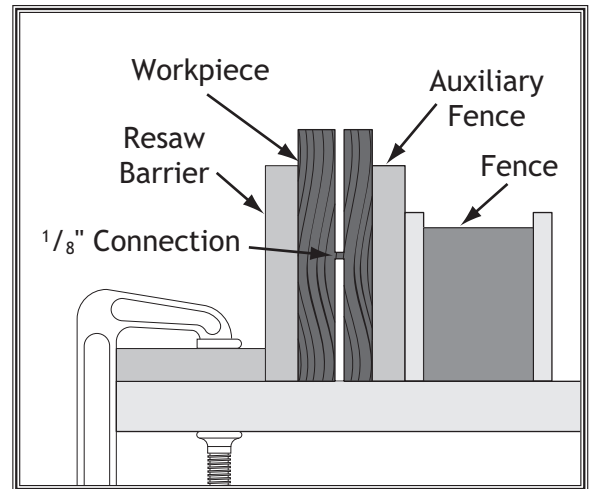

Figure 71. Ideal completed resaw cut.
- Raise the blade approximately an inch, or close to half the height of the workpiece (**Figure 71**), whichever is less.
- Repeat **Steps 7-9** until the blade is close to half of the height of the board to be resawn. The ideal completed resaw cut will leave a $\frac{1}{8}$ " connection when the resawing is complete as shown in **Figure 71**. Leaving a $\frac{1}{8}$ " connection will reduce the risk of kickback.